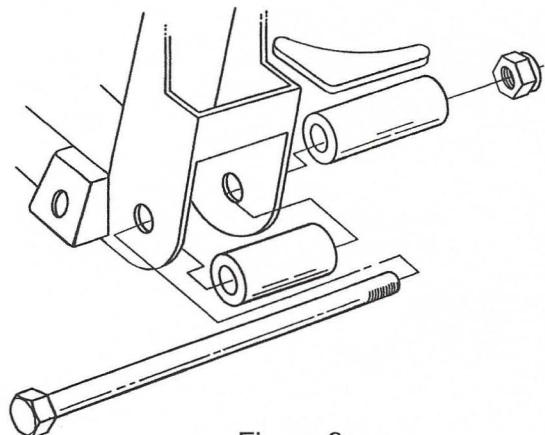

Figure 3
5. If you purchased a complete I.F.S. Package from *HEIDTS*, it was supplied with Full Lower A-Arms. Begin by installing the Spacers onto the crossmember. The holes where the lower control arms attach to the Crossmember must be enlarged to 5/8". Mount the Crossmember Spacers and the Rear Spacers which were supplied with the Lower Control Arms onto the Crossmember as shown in Figure 3 using the supplied Inner Bushing Bolts, Nuts and a temporary spacer under the Nuts. DO NOT use the A-Arms for this operation as the welding heat will melt the rubber bushings. Tighten the Bolts and Nuts tight. Weld the Rear Spacers to the Crossmember all around. Weld the Crossmember Spacers as far as possible inside the crossmember on both ends. Position the Gussets horizontally, not vertically, against the Rear Spacers and the back of the Crossmember. Weld Gussets to Spacers and Crossmember. When it cools, remove the bolt.